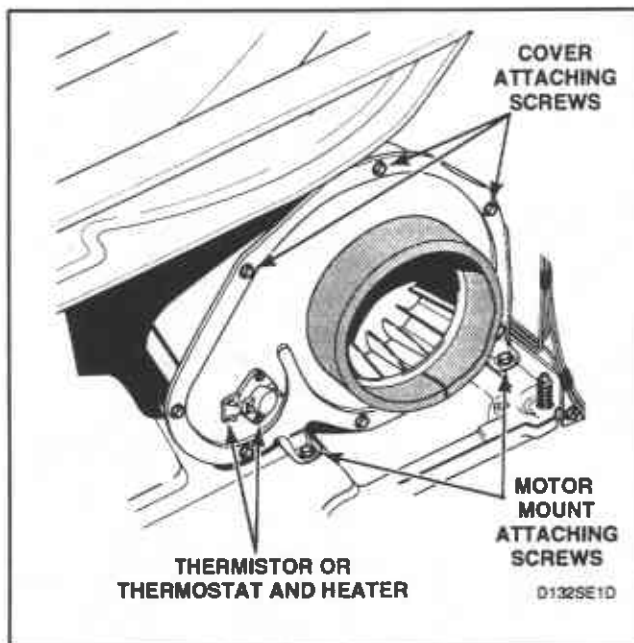
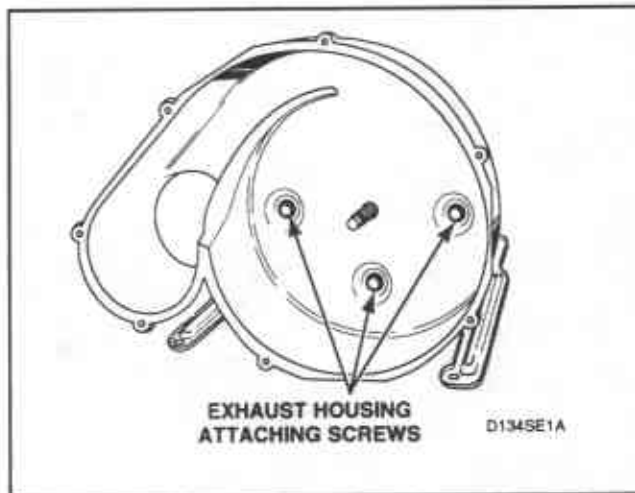

Figure 29
Figure 32
- h. Remove two screws holding motor mounting bracket to dryer base, *Figure 29*.
- (1) Remove screws holding cover to housing, *Figure 29*.
- (2) Hold motor pulley securely and unthread impeller from motor shaft (right hand thread). Use a 7/8 inch, 6 point socket to aid in the removal of the impeller.
- (3) Remove three screws holding the exhaust housing to the motor mounting bracket, *Figure 32*.